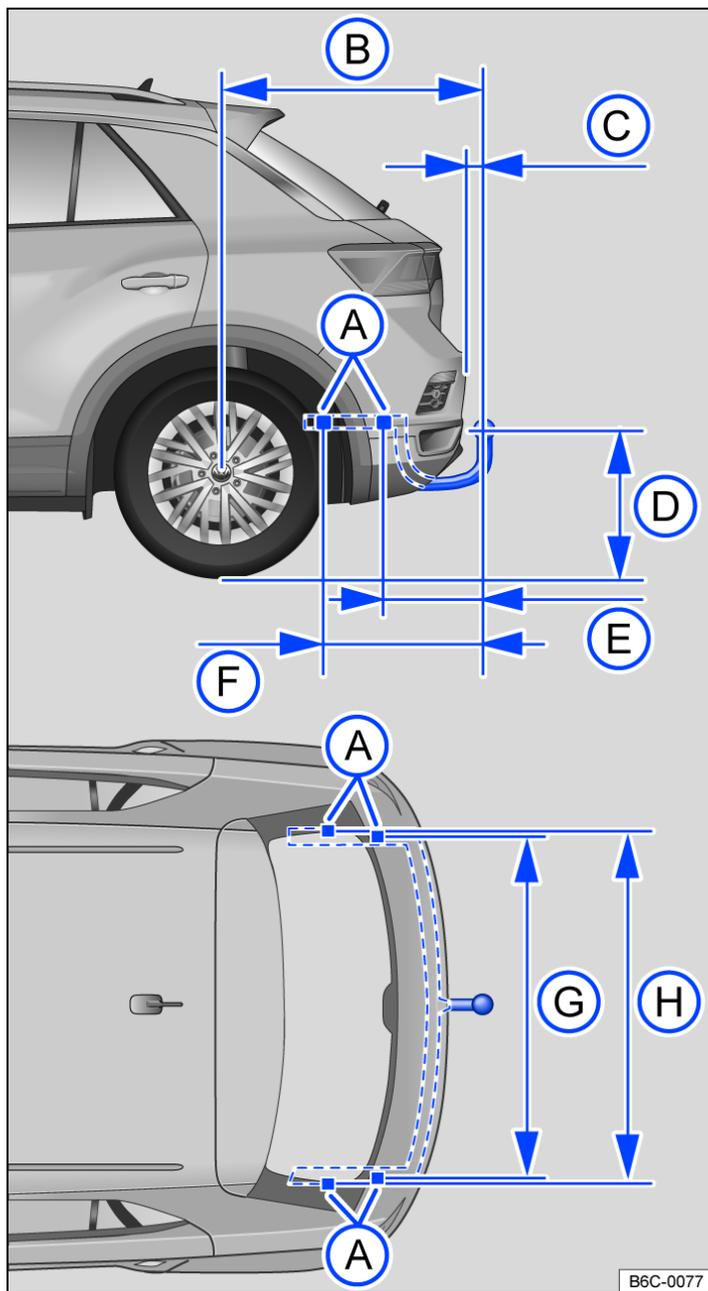

Fig. 1 Dimensions and mounting points for retrofitting a towing bracket.
The dimensions → Fig. 1 must be adhered to when retrofitting a towing bracket. Always observe the minimum distance given from the middle of the ball coupling (D) to the surface of the road. This also applies when the vehicle is fully laden, including maximum drawbar load.
- (A) Mounting points
- (B) 879 mm
- (C) At least 65 mm
- (D) 350 - 420 mm
- (E) 334 mm
- (F) 554 mm
- (G) 1017 mm
- (H) 1051 mm